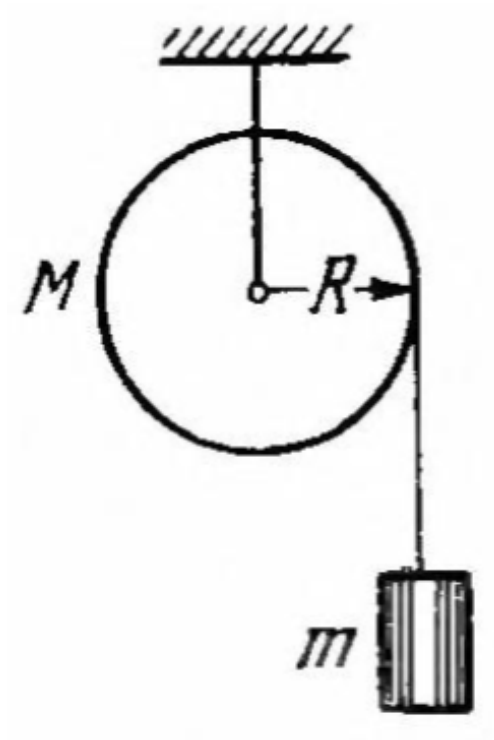

Figure 3: Mass attached to cylinder
7. A light thread with a body of mass m tied to its end is wound on a uniform solid cylinder of mass M and radius R (Fig. 3). At a moment $t = 0$ the system is set in motion. Assuming the friction in the axle of the cylinder to be negligible, find the time dependence of the angular velocity of the cylinder. (The moment of inertia of a cylinder around its central axis is $\frac{1}{2}MR^2$ (Irodov))